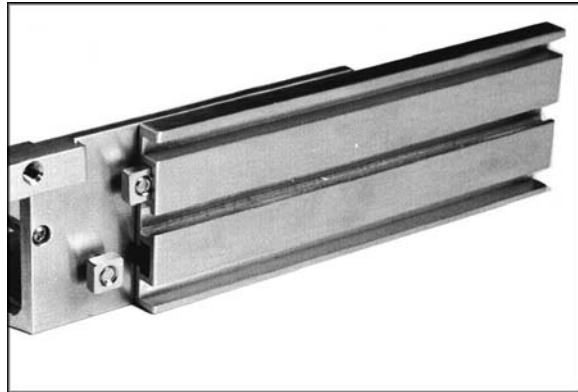

Figure 8
2. Take one fence extension assembly and install onto the fence support (Fig. 8). The holes are staggered for easy installation.